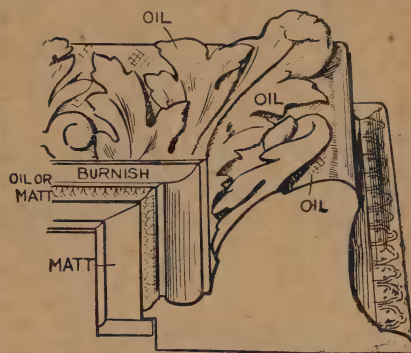

Fig. 1.—Part of Frame Gilt in Three Styles
Gilding and Re-gilding.—There are three varieties of gilding in picture-frame work, and a good-class frame may exhibit all three. They are: (1) Oil gilding, the method that is generally employed for the modelled enrichments; (2) matt gilding, a dull gold finish employed for the flats, and always for the slip enclosing the picture; and (3) burnish gilding, used for the rounded portions in relief, and sometimes for small hollows. Fig. 1 (in the next column) shows a portion of a frame in which all three methods are introduced, but a simple style of frame may be finished throughout in one method. The order in which the three methods are executed in one frame are: first, the oil gilding; secondly, the matt; and, last of all, the burnished parts.